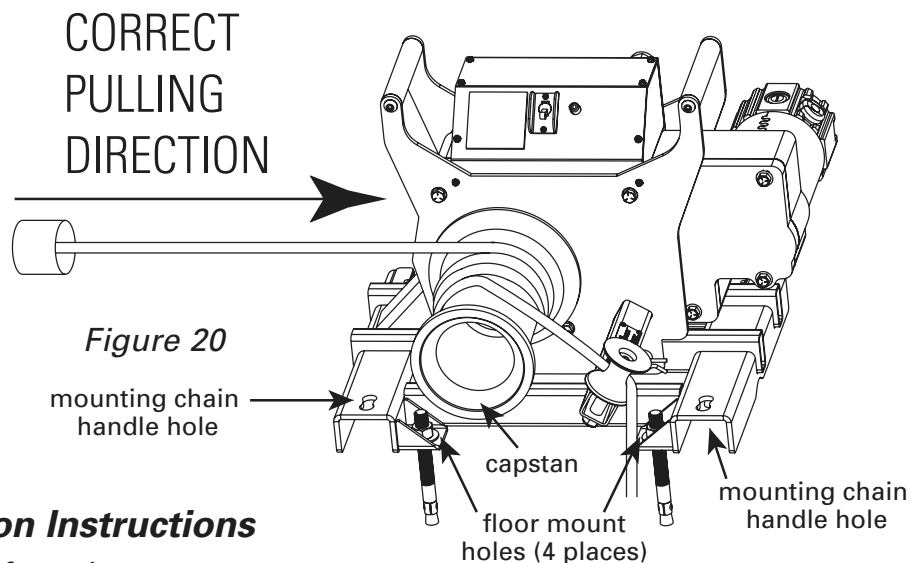

*Figure 19a*
**ALWAYS** place the Model #2280 floor mount close to the conduit. This will reduce the possibility of injury should the rope break. See Figure 19a.